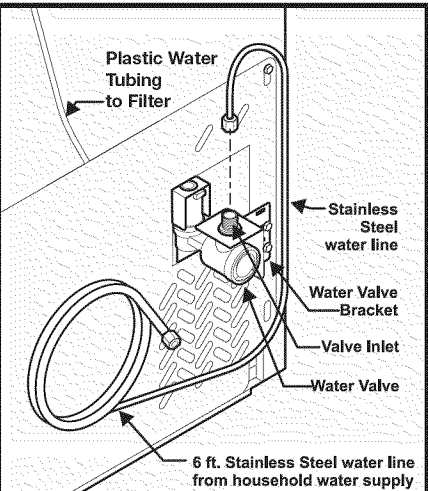

Figure 2
- If you use stainless steel tubing - The nut and ferrule are already assembled on the tubing. Slide compression nut onto valve inlet and finger tighten compression nut onto valve. Tighten another half turn with a wrench; DO NOT overtighten. See Figure 2.